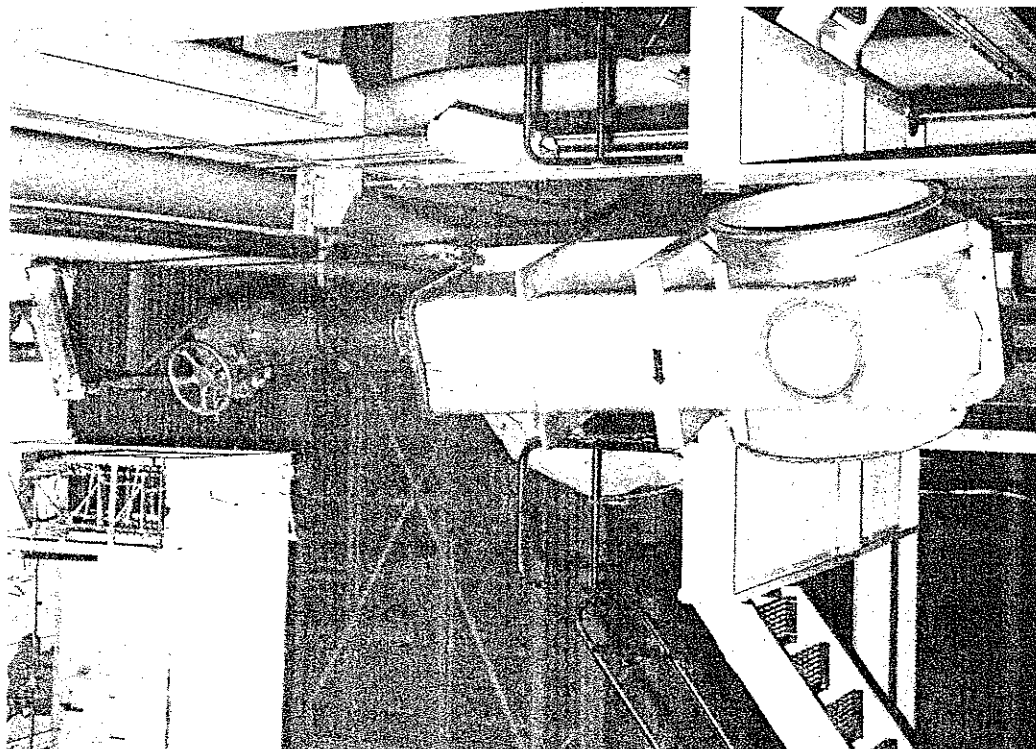

FIG. 14 LIFTING VALVE
D. Preparation and Inspection for Installation - (Fig. 14)